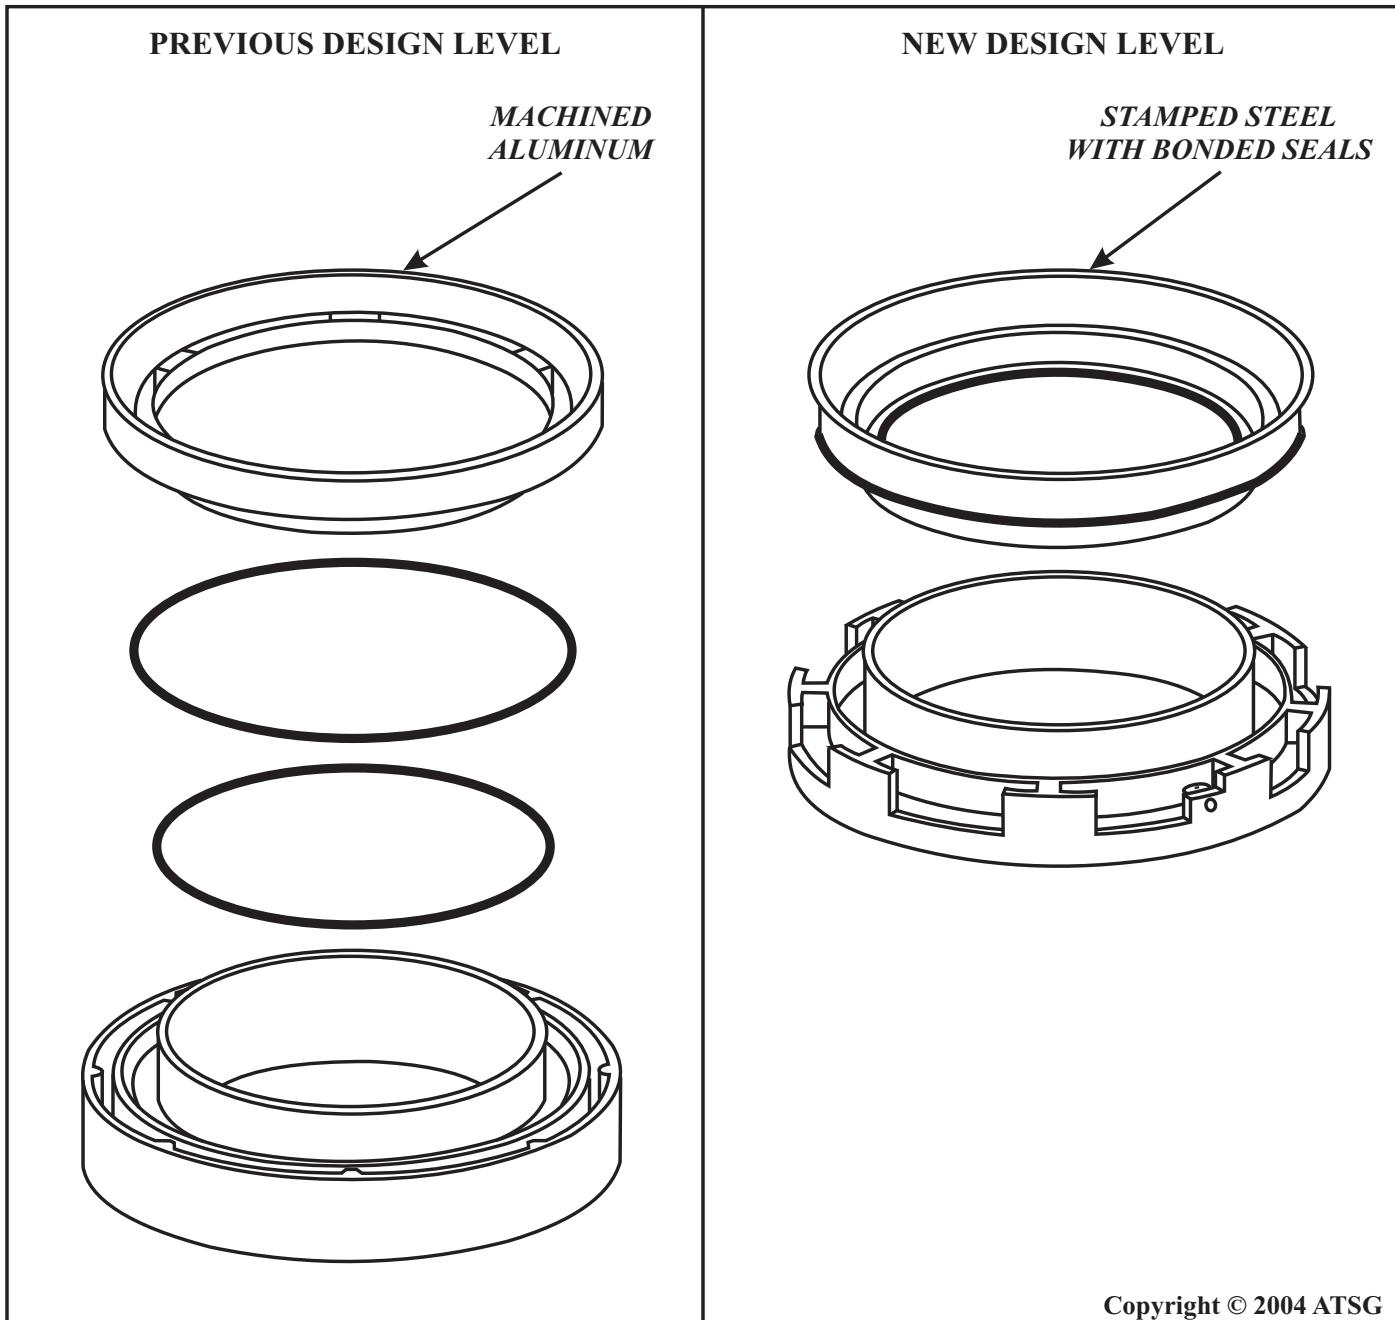

Figure 78
**CHANGE:** Some 1996-1997 vehicles equipped with the E4OD transmission were built with a new design level overdrive clutch piston, with the seals bonded to the piston (See Figure 78).
- (1) OVERDRIVE PISTON - Now stamped steel with moulded rubber inner and outer seals on the piston assembly, instead of the previous machined aluminum, as shown in Figure 78.
- (2) OVERDRIVE/INTERMEDIATE CLUTCH CYLINDER - Major casting changes to clutch cylinder, to accommodate the new design level bonded piston, as shown in Figure 78.